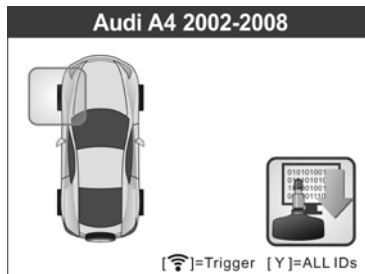

Figure 4.8
- The **TPMS Relearn** function icon on the upper right corner of screen is not supported by all vehicles, but the sensor activating process remains the same. For those vehicles not supporting Relearn function, the activation screen displays as Figure 4.8. Detailed information about TPMS Relearn, please refer to **4.2 TPMS Relearn**.